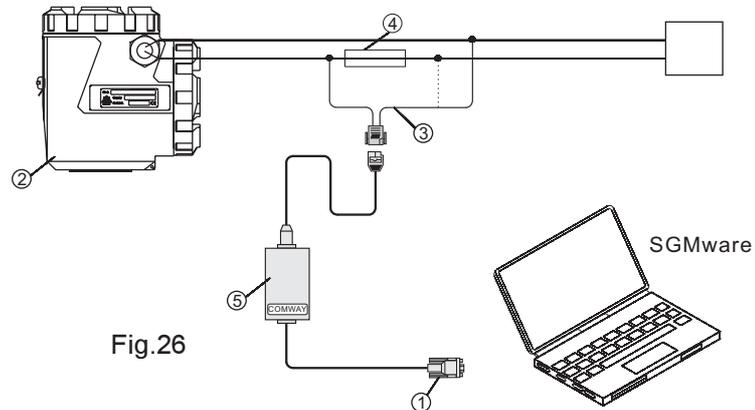

Fig.26
6.3.1 Connection by HART line (fig.26)